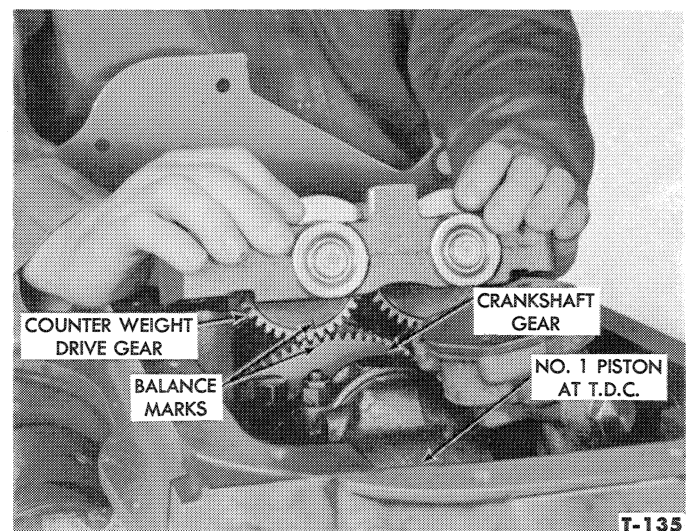

Figure 59—Installing Crankshaft Balancer
1. Make sure that the mounting surfaces on the cylinder block and balancer are clean. Rotate the crankshaft until the timing mark on the flywheel and No. 1 cylinder are at TDC (top dead center). Rotate the counterweight gears to align the balance mark on the counterweight drive gear with the mark on the crankshaft gear as shown in Figure 59.